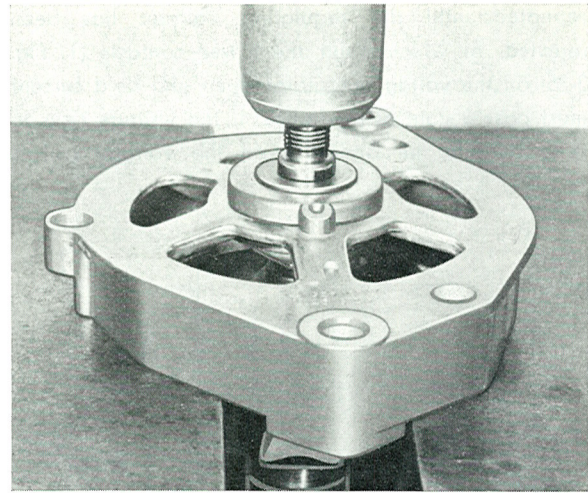

Fig. 3-9. Removing the rotor
4. Press the rotor out of the drive end shield, see Fig. 3-9.